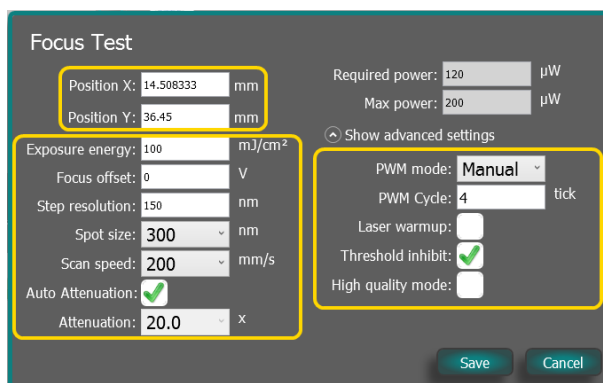

Figure 3-149 Project fine tuning window
1. Press the  button to open the project fine tuning window, see **Figure 3-149** below.